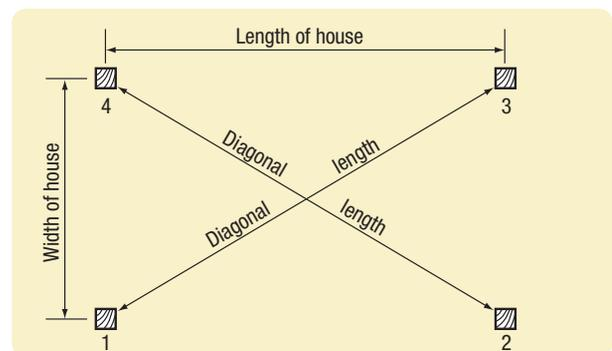

Figure 4.18 Plans for the size and position of the house
- Mark out the position and size of the house as shown in Figure 4.18, using your house plan.